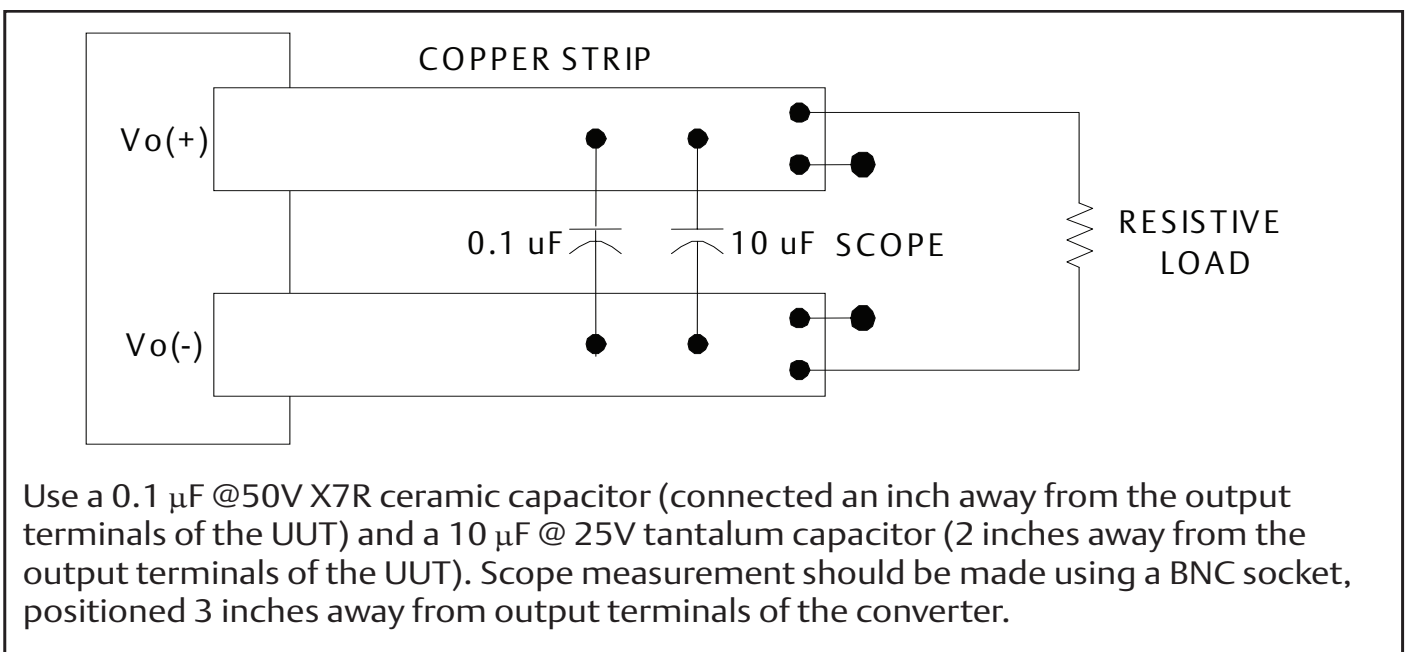

Figure 2. Peak to Peak Output Noise Measurement Setup
- See Figure 2 for the Output Ripple and Noise Test Measurement Setup.